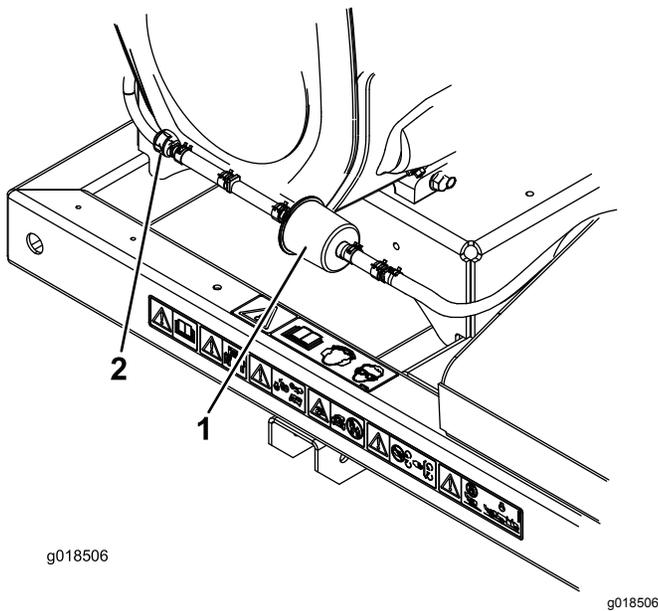

Figure 18
2. Move the spring-type hose clamps on both sides of the carbon canister purge-line filter away from the filter (Figure 18).
3. Remove and discard the carbon filter (Figure 18).
4. Install a new filter into the hose with the arrow on the filter pointing toward the check valve and secure it with the hose clamps (Figure 18).